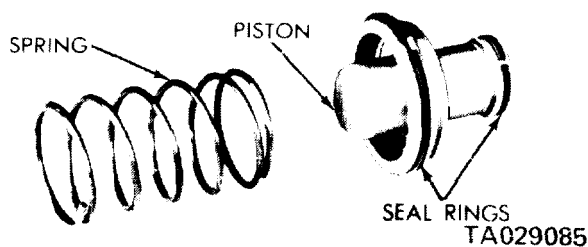

Figure 18-34. Accumulator Piston and Spring.
(1) Clean the mating surfaces and look for burrs on both the transmission case and the valve body steel plate.
(2) Install the accumulator piston in the transmission case. Place the piston spring on the accumulator piston (figure 18-34).